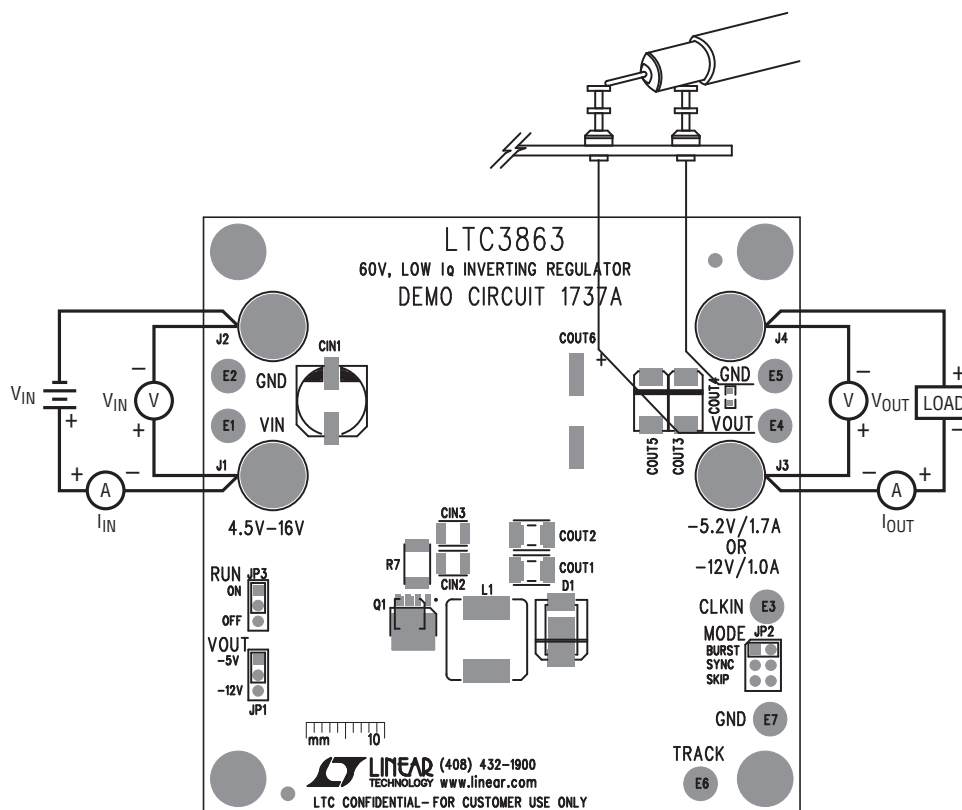

Figure 1. Proper Measurement Equipment Setup
Demonstration circuit 1737 is easy to set up to evaluate the performance of the LTC3863. Refer to Figure 1 for proper measurement equipment setup and follow the procedure below:
**Note:** When measuring the output voltage ripple, care must be taken to avoid a long ground lead on the oscilloscope probe. Measure the output voltage ripple by touching the probe tip and ground ring directly across the last output capacitor as shown in Figure 1.